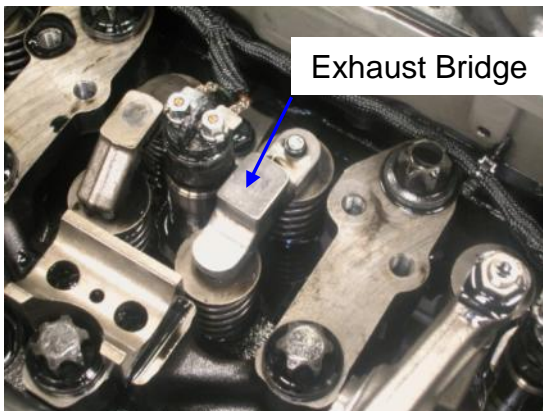

Fig 6
- The Intake and Exhaust Rocker Arm assemblies can now be removed to gain access to the exhaust bridge with actuating pin. (See Fig 6)